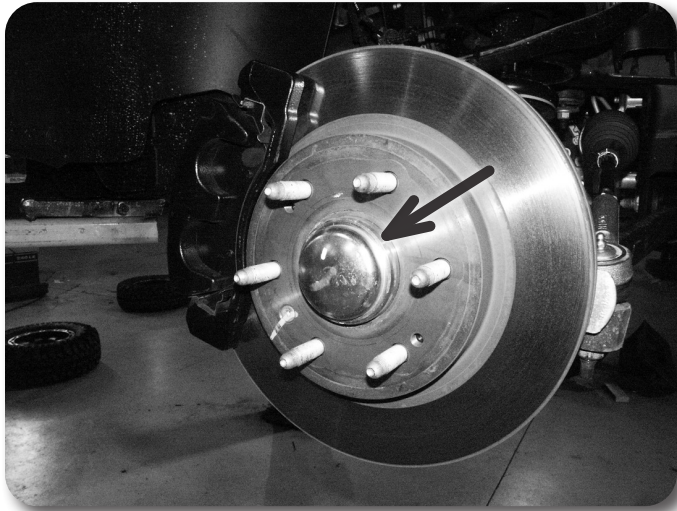

Figure 5
12. Remove the hub dust cap Figure 5. Remove the axle shaft nut. Retain nut and cap.